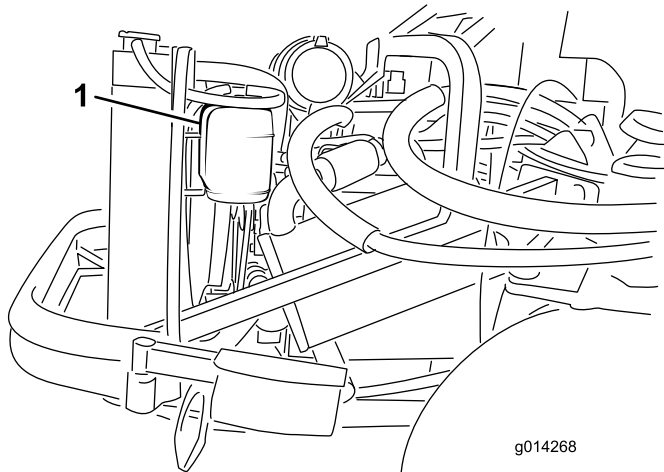

Figure 44
1. Check the level of the coolant in the expansion tank (Figure 44). The coolant level should be between the marks on the side of the tank.